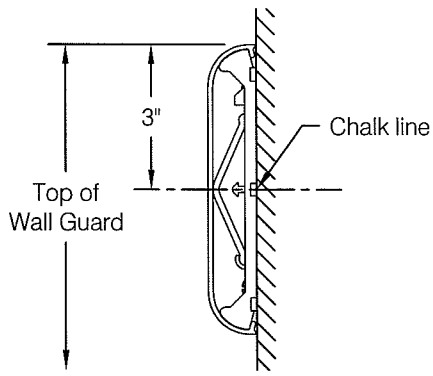

fig 1
- WGVX-6-12-XXX accent strips (5) and textured
- Step 1:** Determine top of wall guard height and snap a chalk line 3" below to locate centerline of wall guard and to provide a reference line for locating WG-6C Red-E-Clip® retainers, see **fig 1**.